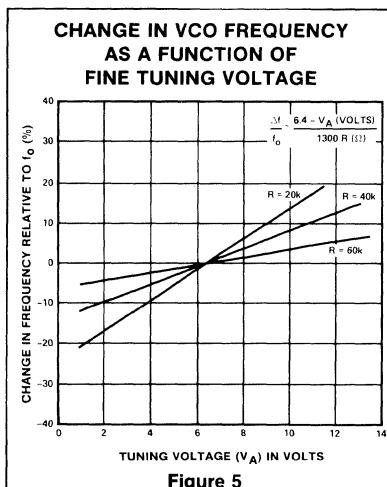

Figure 5
The percent change in the VCO free-running frequency, f_0 , as a function of the voltage applied to point (A) is shown in the curves of Figure 5. Note that with this fine tuning technique, it is possible to increase the VCO free-running frequency to a value greater than possible with just a trimmer capacitor alone. A formula for the approximation of the VCO frequency as a function of the voltage at point (A), the resistance values and the starting frequency, is given below: